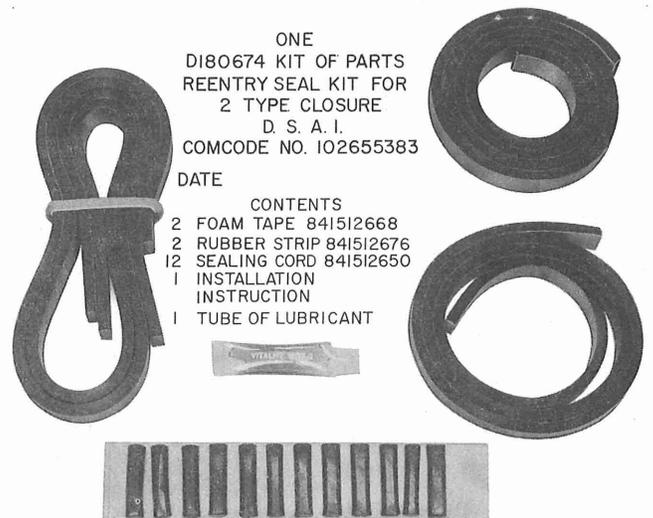

Fig. 4—Reentry Seal Kit D-180674
- (h) **Reentry Seal D-180674 (Fig. 4):** Kit for sealing splice closure which eliminates the need for cleaning the case upon reentry. This kit of parts should be used when reentry is anticipated. Otherwise, use the less costly B sealing tape and B sealing cord.